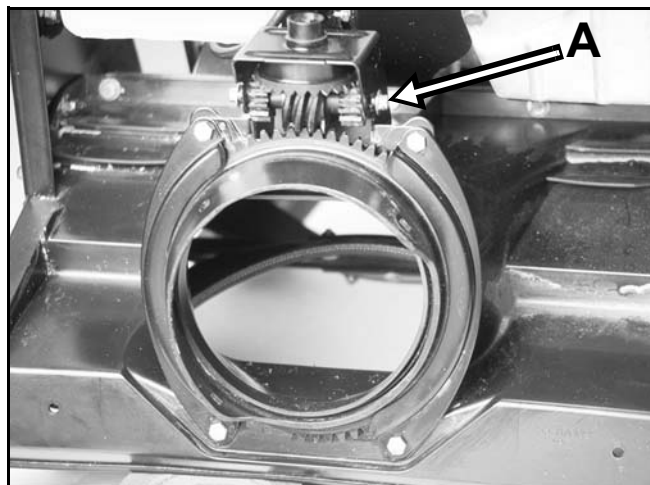

Figure 12
2. The gears are held in the bracket by a shaft with a push nut on either end (Figure 12). To remove the shaft, remove one of the push nuts and pull the shaft out.